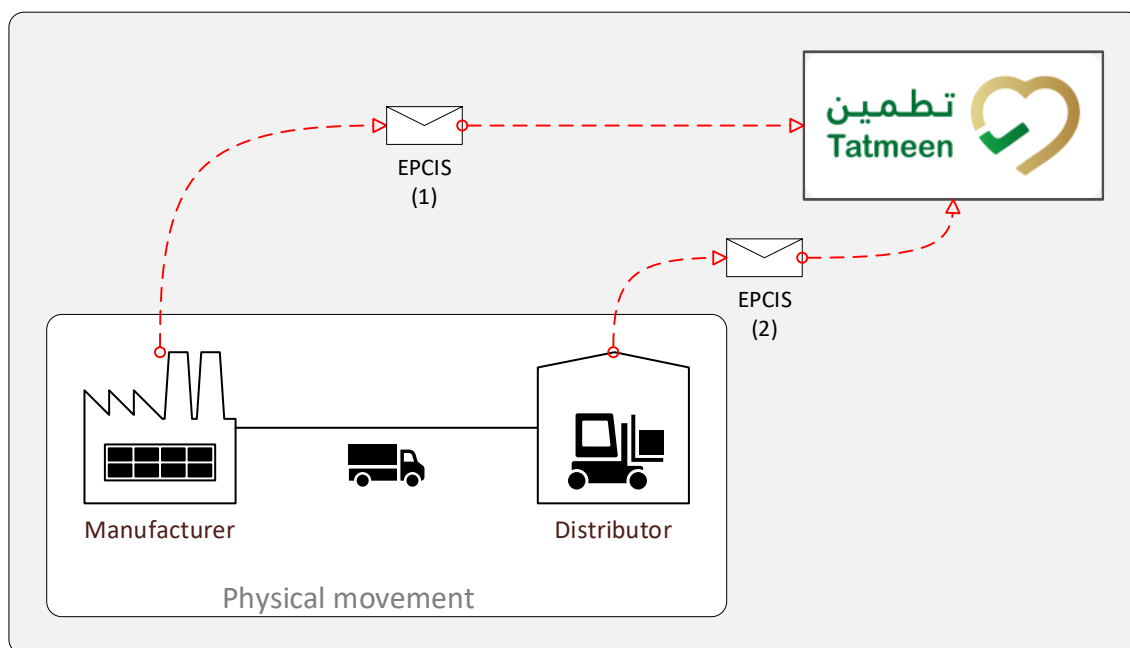

Figure 5 Processing Drugs from Local (Domestic) Manufacturers
This outline refers to Figure 5, above. Note that in the description below there is reference to a Local Sales Permit that is still not in place, however this illustrates the intent.
2. Once the Manufacturer receives the Local Sales Permit and has identified the top-level hierarchy items scheduled for UAE market release, then they must send a single EPCIS message (“EPCIS (1)” in Figure 5) containing the Local Sales Permit reference; commissioning, aggregation and shipping event for the full / partial shipment.
3. Once the local manufacturing EPCIS message is successfully sent to the Tatmeen solution, the products may be shipped from the manufacturer to the local UAE supply chain partner. Note that the EPCIS message (“*EPCIS(2)*” in Figure 5) is described in the Tatmeen Technical Guide for Logistics and is not described in this document.